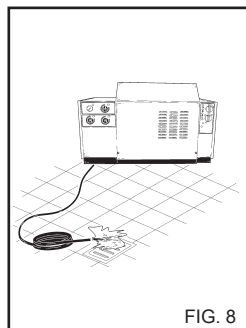

FIG. 8
To eliminate any impurities or air bubbles from the water circuit we advise starting the cleaner for the first time without the lance and letting the water run out for a few seconds. Impurities could block the nozzle and cause malfunction (Fig. 8).
- 4) After using with detergent, flush out the intake circuit; place the detergent suction hose (fig. 8) in a tank of clean water and let the pump run for 1 minute with the dosing tap turned fully on and the lance in detergent delivery condition.